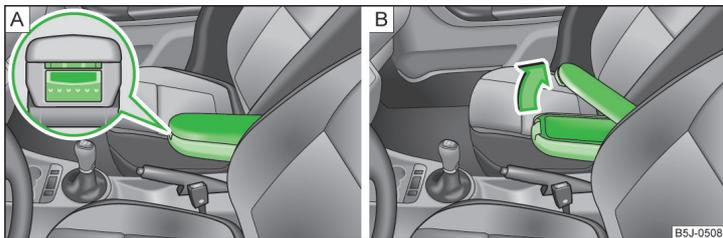

Fig. 88 Armrest: Storage compartment/open storage compartment
- Press the lower button on the end of the armrest » Fig. 88 - .
- Press the upper button and open the cover of the stowage compartment upwards » Fig. 88 - .